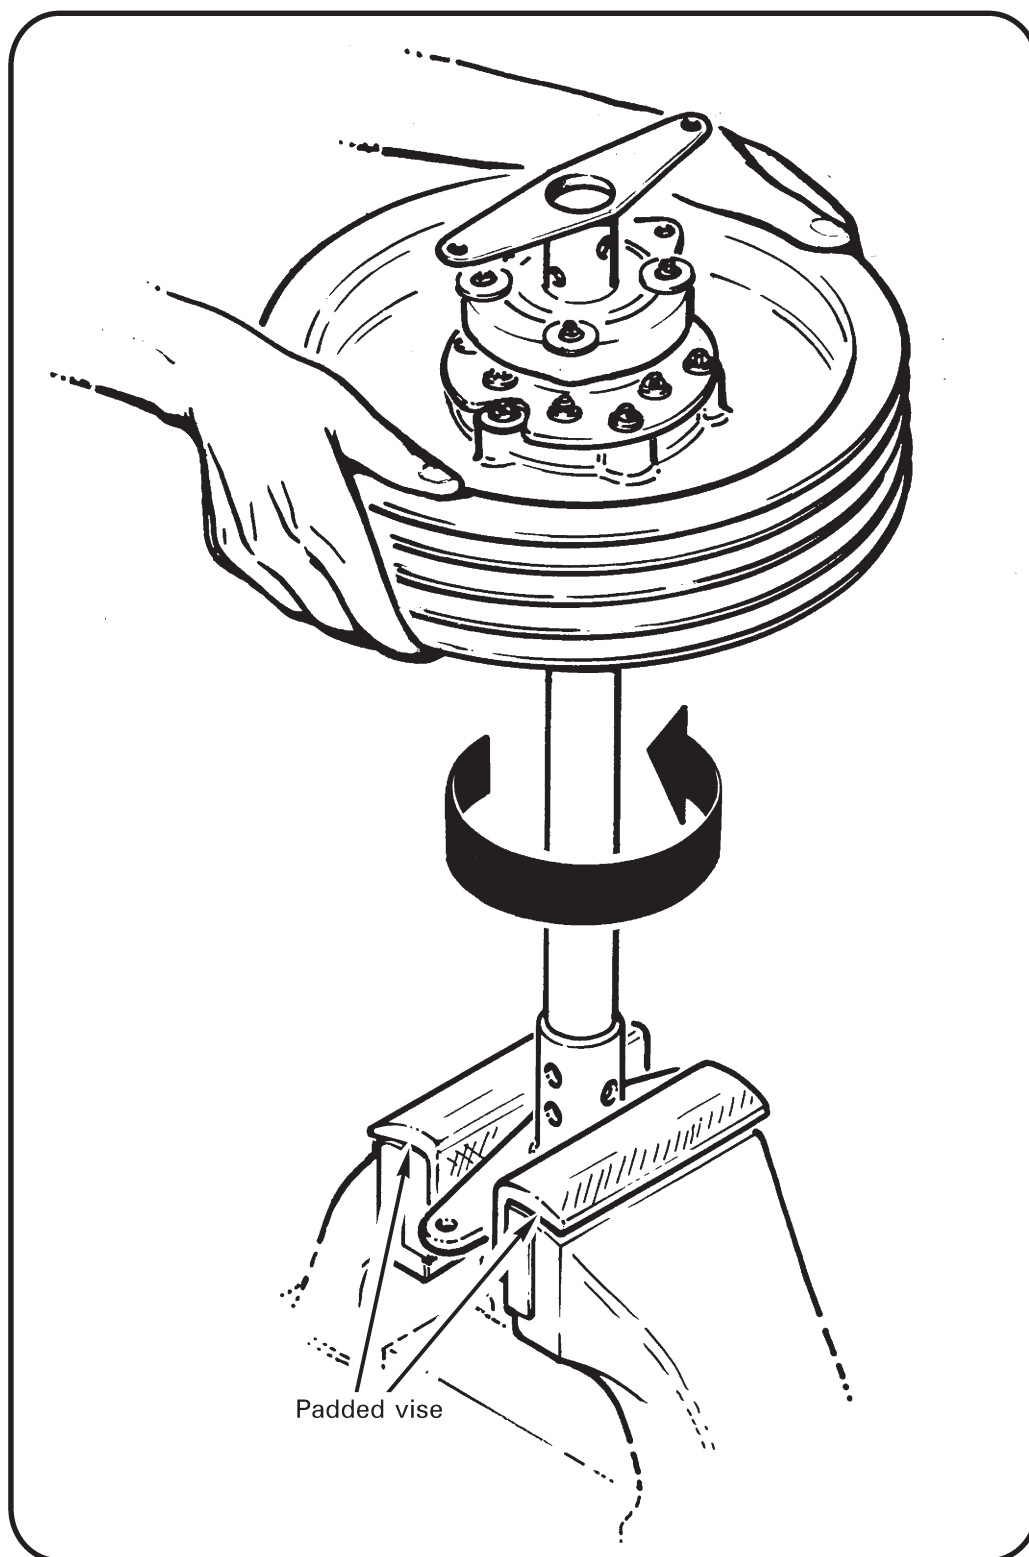

FIGURE 7-6B A907 YOKE REMOVAL
- b. If a press is not available, apply penetrating oil to yoke-shaft juncture. Gently clamp A907 yoke in a padded vise per Figure 7-6B. Twist clutch shaft out of yoke by turning upper sheave. If difficulty is encountered, discontinue attempt and arrange use of press as described in preceding step.